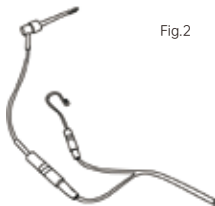

Fig.2
1) Connect the measuring wire: securely insert the plug of the measuring wire into the Measuring wire socket on the unit.(Fig.2)